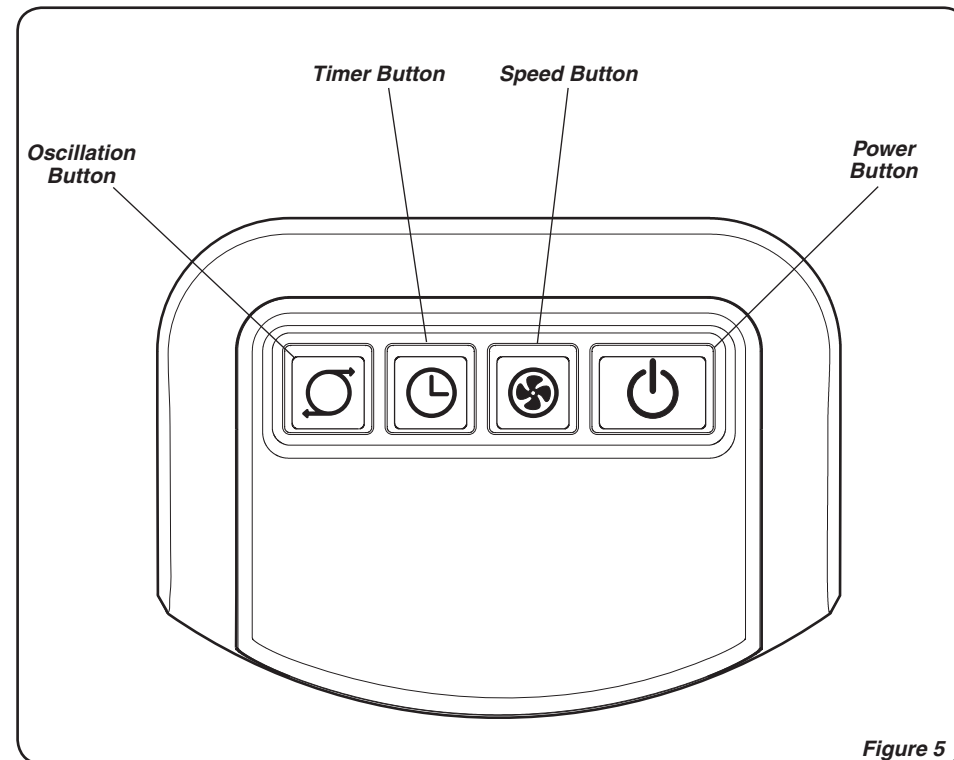
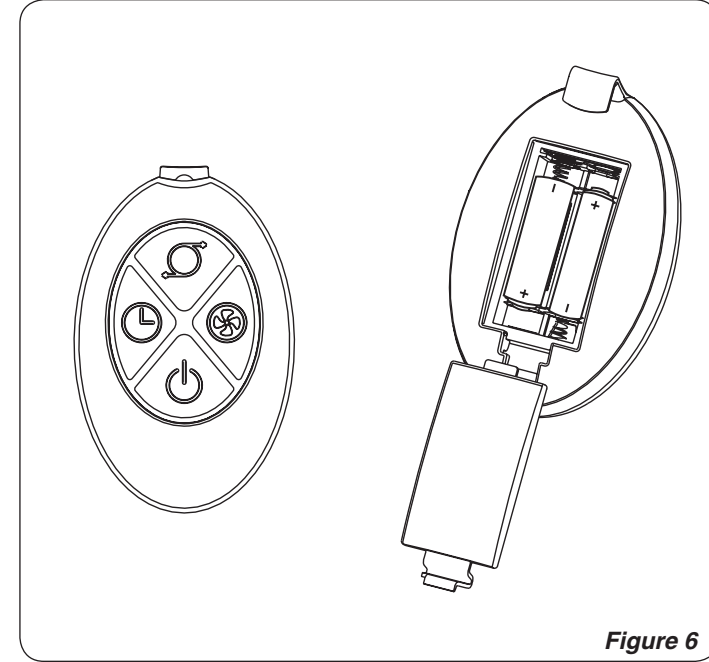

Figure 5
Figure 6
OPERATION (Figures 5 and 6)
This Fan may be operated by the Manual Controls located on top of the unit (as shown in **Figure 5**) or by the Remote Control (shown in **Figure 6**).
REMOTE CONTROL (Figures 6 and 7)
1. Install batteries (not supplied) as shown in **Figure 6**. The battery is size “AAA”.